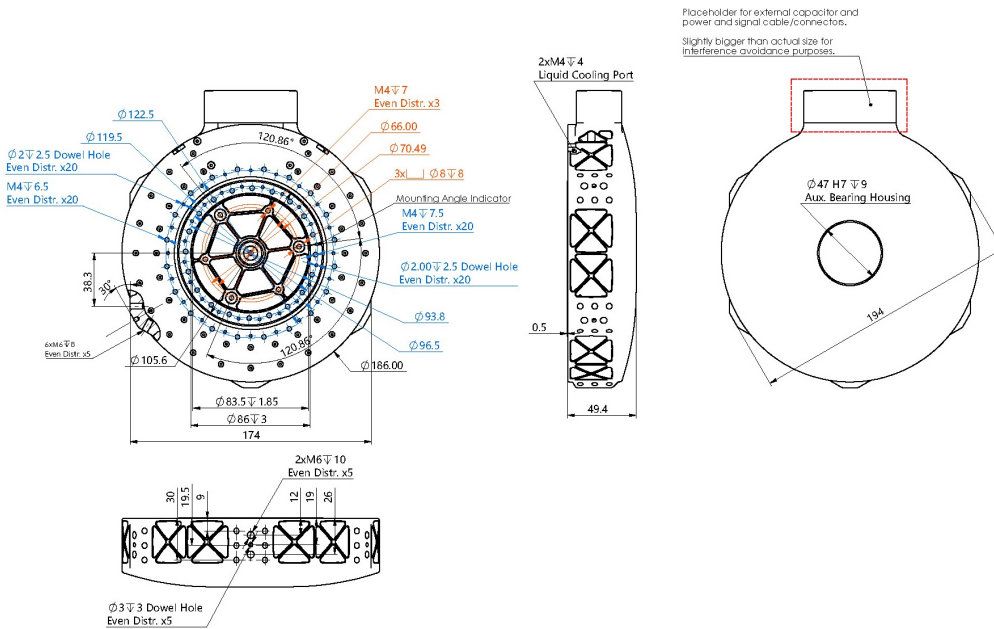

Figure 5: Kodiak BEAR V1 Specs
The mechanical, electrical, and thermal management features of CB01 are introduced in details in the following, with the help of figure 5.
- **Mechanical Features** The dimensions and locations of mounting features are annotated as in figure 5. There are M4 screw holes, 2mm pin holes and 8mm pin holes on the output shaft for locating and connecting the payload. The M4 screw holes as well as the 2.5mm pin holes located on the front side as well as the M6 and M5 screw holes as well as the 3mm pin holes located on the side can all be used to locate and mount CB01 to its application. Besides, there is also one 47mm bearing hole on the back that is axisymmetric about the output shaft for extra support purpose.